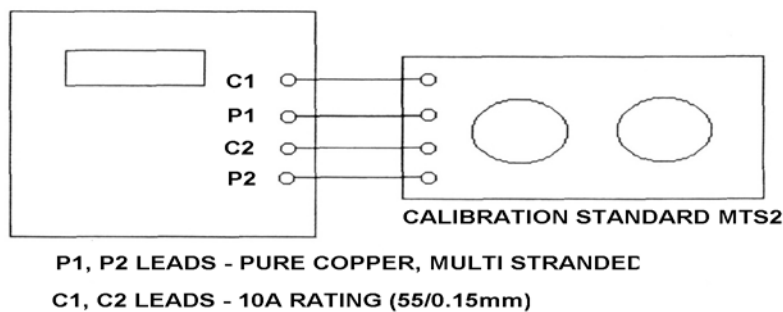

Figure 4.1 Preferred calibration setup.
4.3.2 Connect each of the four LOM-DO7e terminals to the equivalent terminals on the calibration standard. It is essential that low thermal emf leads are used for the P1 (or +U) and P2 (or -U) leads. See Figure 4.1 for the preferred setup.